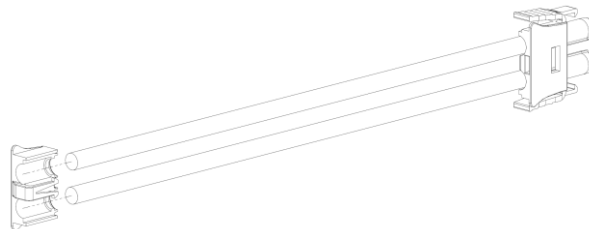

Fig. 2-18: Insert Retainer
54. Insert retainer into plug housing as shown in Fig. 2-18.